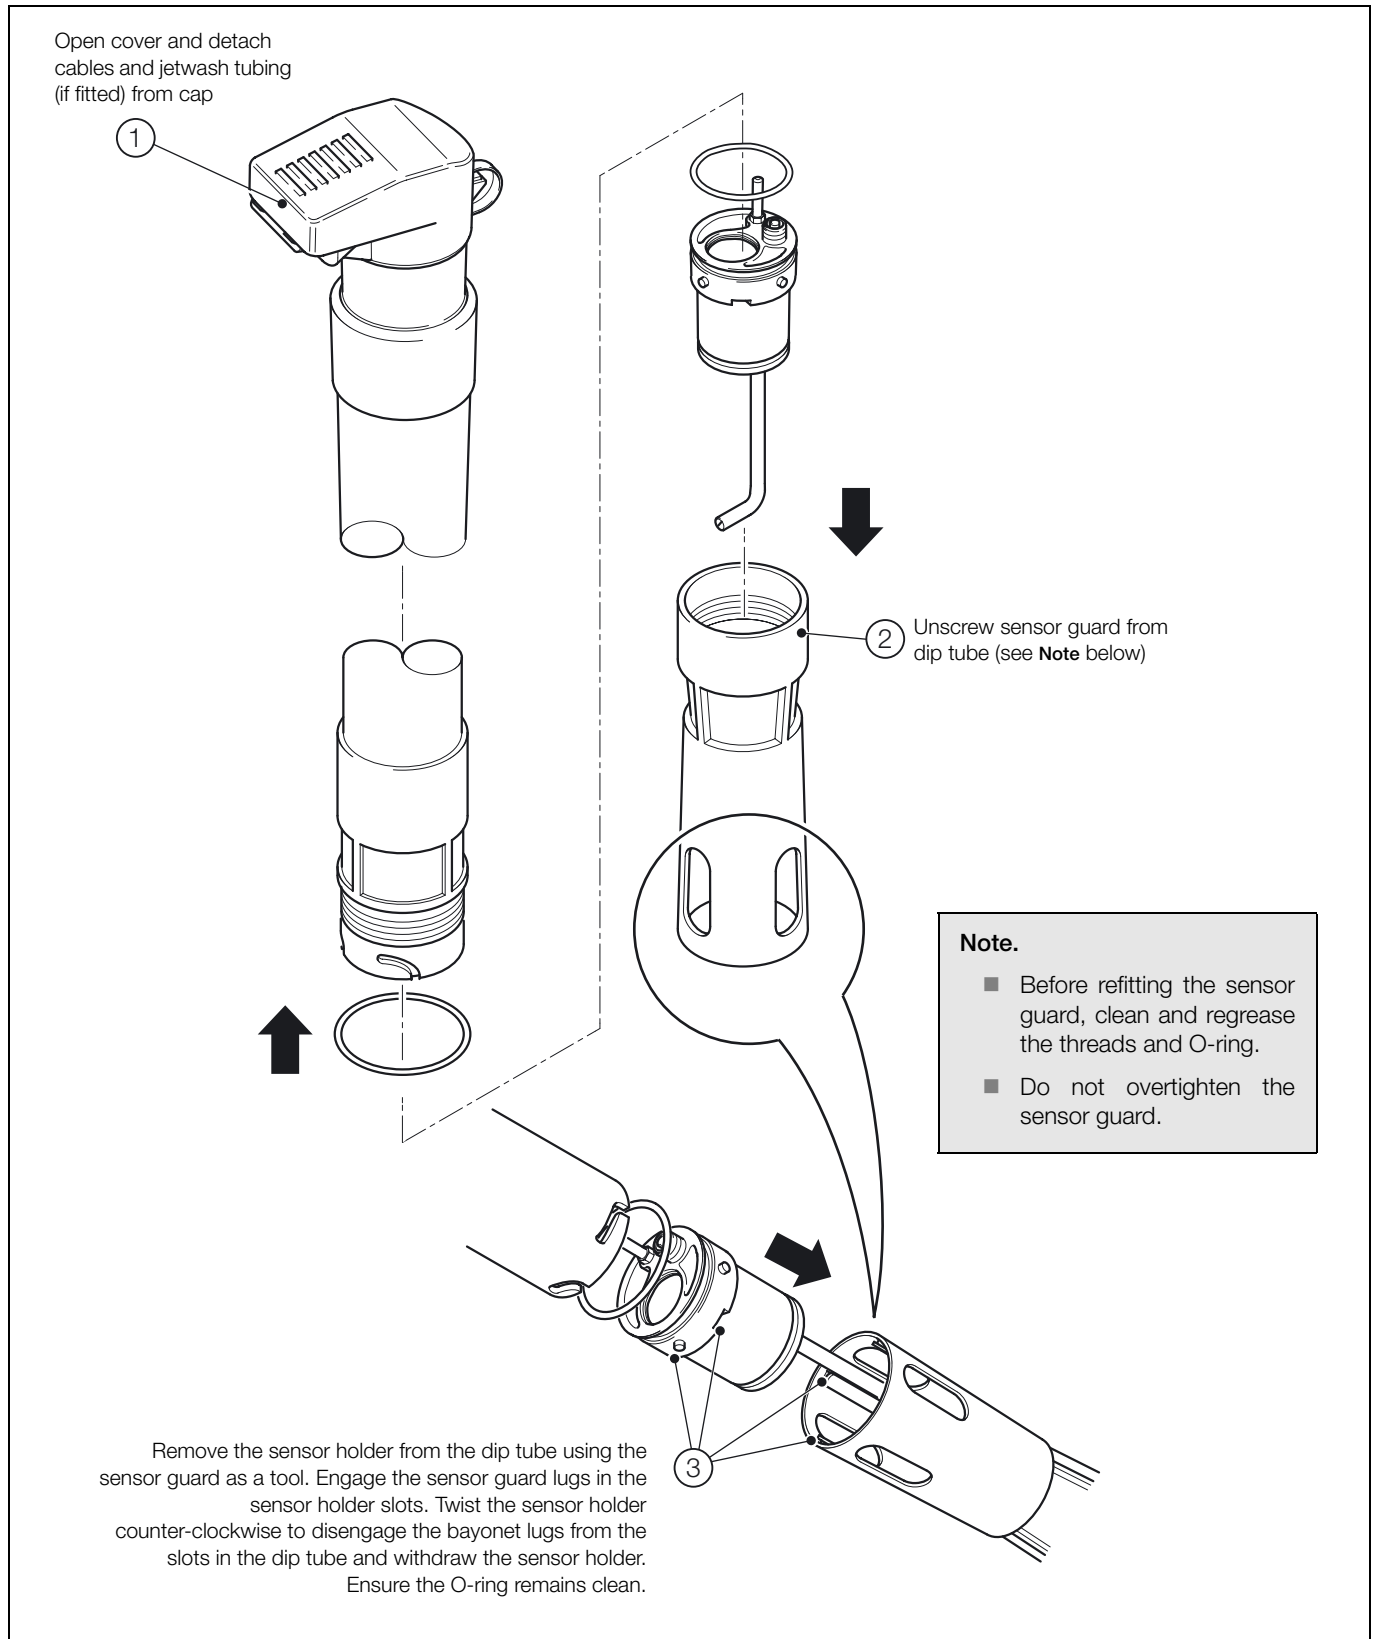

Fig. 2.5 Model AP203 – Removing the Sensor Holder
2.2.2 Model AP203 Flanged Dip (Immersion) System – Fig. 2.5